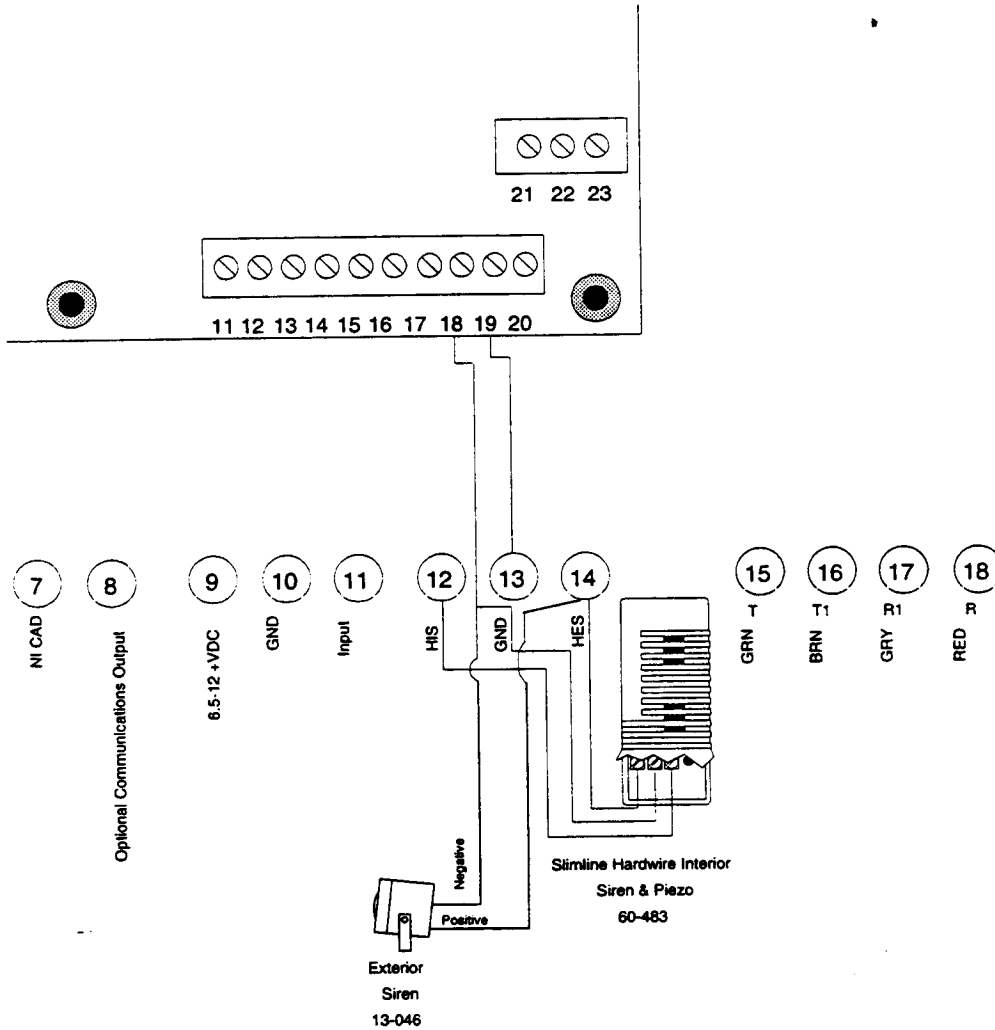

Figure 2.11 Commander 2000 Siren Wiring Diagram
5. Connect the sirens through the Interrogator Module relays (terminals 18 through 23) so that sirens are cut off during listen-in or talk-back mode (see Figure 2.11).